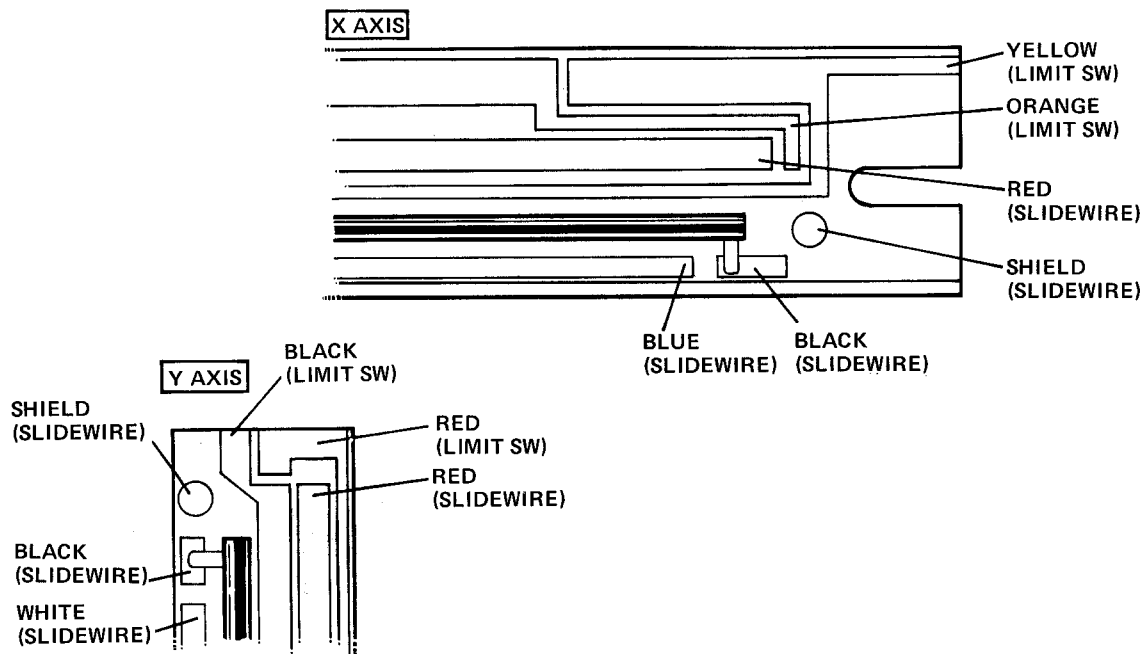

FIGURE 3-8. SLIDEWIRE LEAD CONNECTIONS
c. Unsolder six wires, noting order in which leads connect to slidewire (see Figure 3-8).
c. Unsolder six wires, noting the order in which leads connect to assembly (see Figure 3-8). Top two wires are for the limit switch, bottom four wires are for the slidewire.